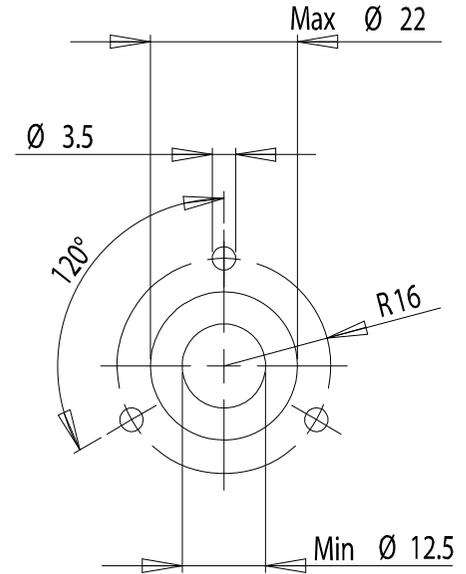

Figure 6 Mounting Hole Dimensions
- The hole must be minimum 12.5mm (1/2"), maximum 22mm. For dimensions, see Figure 6.